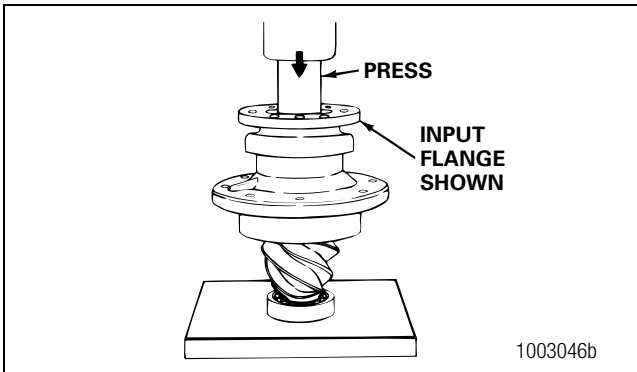

Figure 5.15
- Use a press to install the input yoke or flange, nut and washer, if equipped, onto the drive pinion. The yoke or flange must be seated against the outer bearing. Figure 5.15.